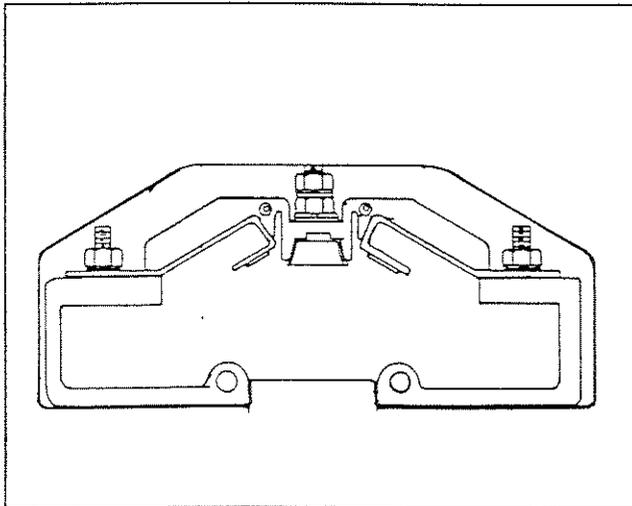

Figure 14. Stationary Main Contacts Assembly
See Figure 14. Remove the two (2) long thru-bolts that retain the stationary main contacts assembly. Carefully remove the stationary main contacts.